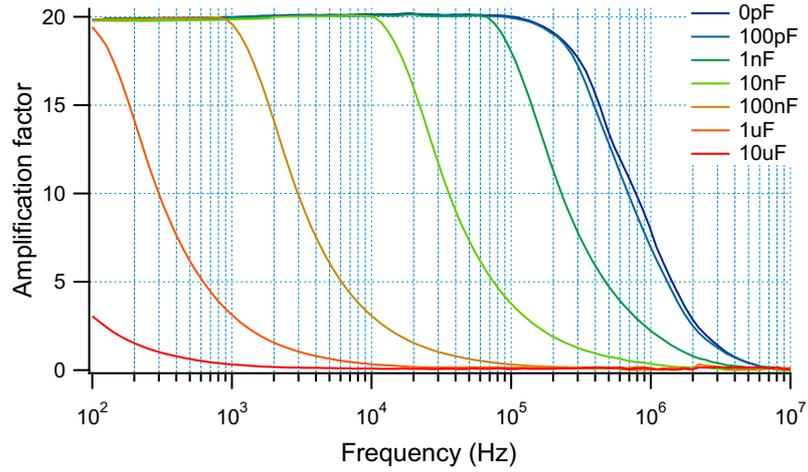

Figure 4. Frequency response at 300V_{pp} output voltage with different capacitive loads
- Frequency response as a function of capacitive load (Fig. 4, 5)